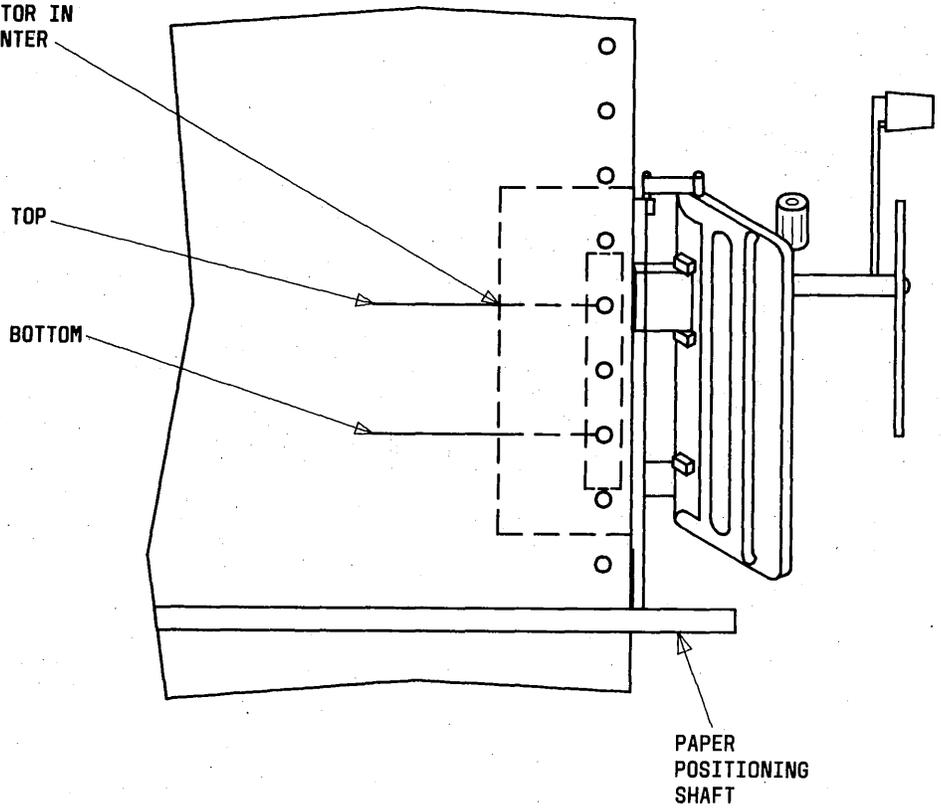

Fig. 21—DATASPEED 40 Printer Alignment Clip
- 16 Make a pencil reference mark on paper in line with top of alignment clip on right tractor (Fig. 21).